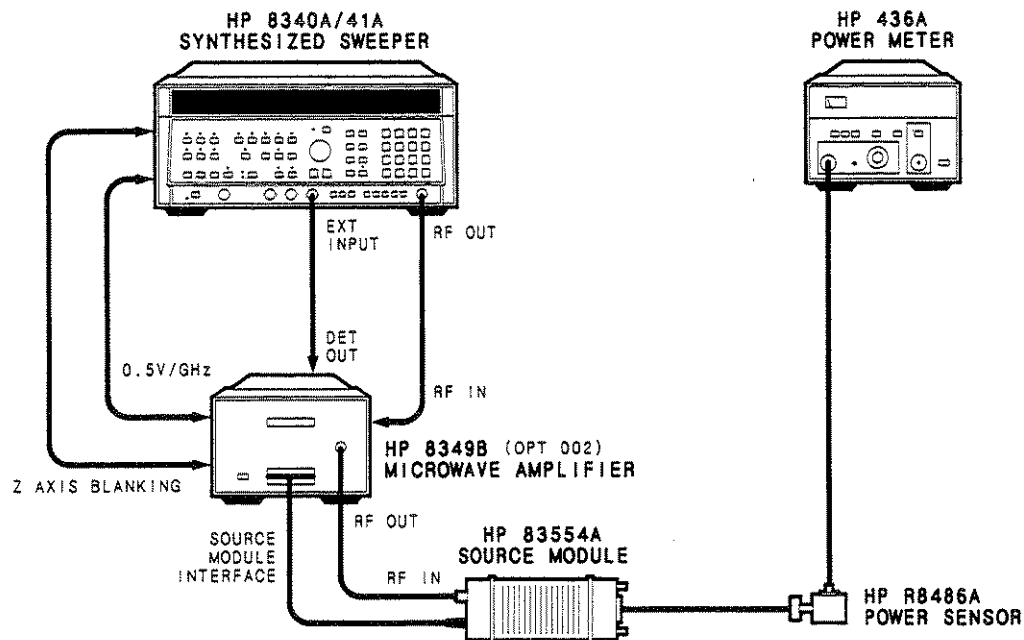

Figure 2-4. System Configuration
1. Connect the equipment as shown in Figure 2-4. Do not connect the HP R8486A power sensor to the HP 83554A output.